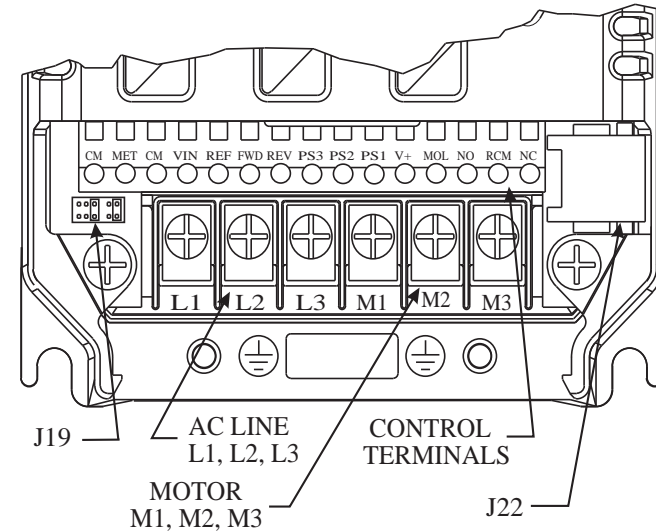

FIGURE 2.8
The control terminals are located on the bottom edge of the inverter's control board. See Figure 2.8 and Section 2.11. These terminals are available for use with external devices.
The E-trAC® XFC series micro-inverter has a 15 position control terminal block. Some functions are defined by the setting of jumper **J19**, while others are defined by programming. Refer to Section 5 - Connection Diagrams and Figure 2.8.
**J19** is a pin-jumper selector located below the terminal block on the left-hand side of the control board (See Figure 2.8). It has five (5) positions and two movable shorting jumpers. One jumper selects the analog speed reference used and the second jumper selects the active state (High or Low) of the digital inputs. A pair of small needle nose pliers will prove useful for moving these jumpers. **REMOVE AC POWER AND WAIT FOR ALL INDICATORS TO GO OUT BEFORE CHANGING THIS JUMPER.**